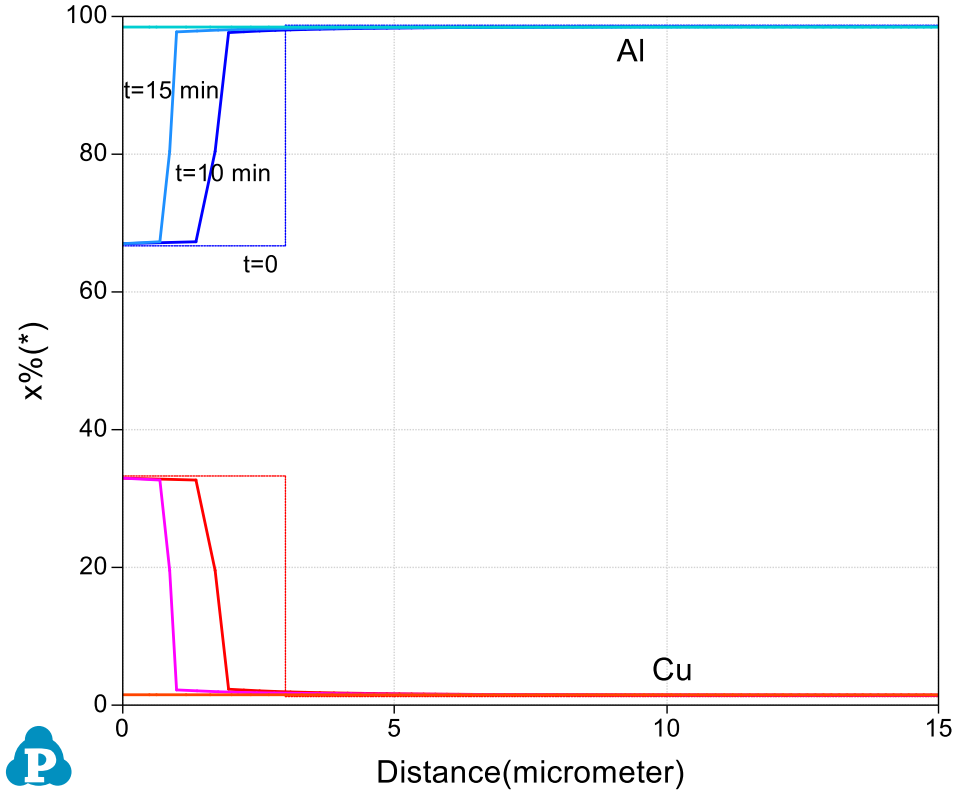

Figure 4.12.3: The simulation result of composition-profile evolution.
- Click and open the Default table and select “distance”, “x%(Al)” and “x%(Cu)” to plot the composition profiles at starting, ending and the two selected intermediate times as shown in Figure 4.12.3.